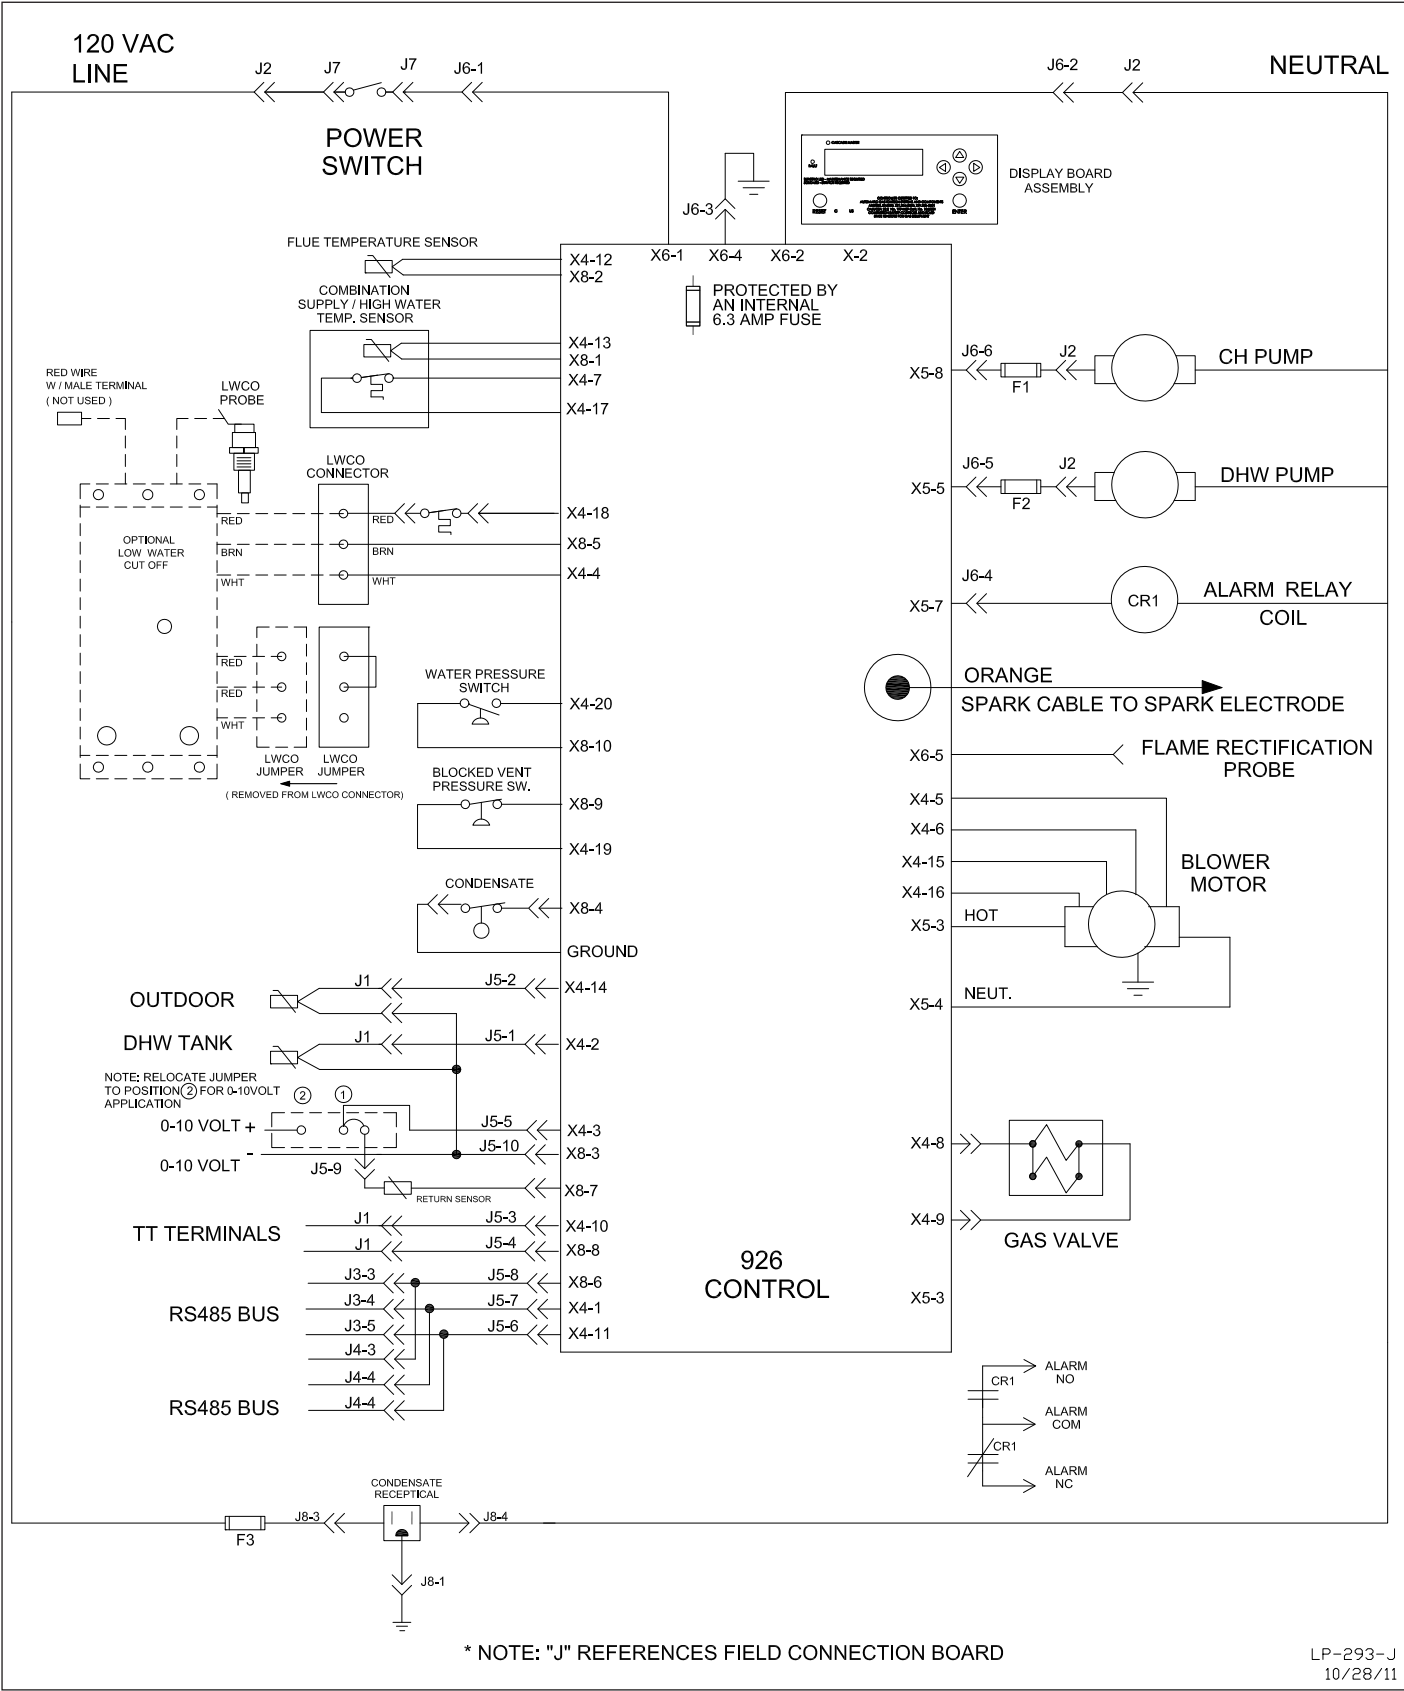

Figure 31 - Internal Connection Diagram
3. Move jumper on connection board (shown in Figure 31) from A to B.